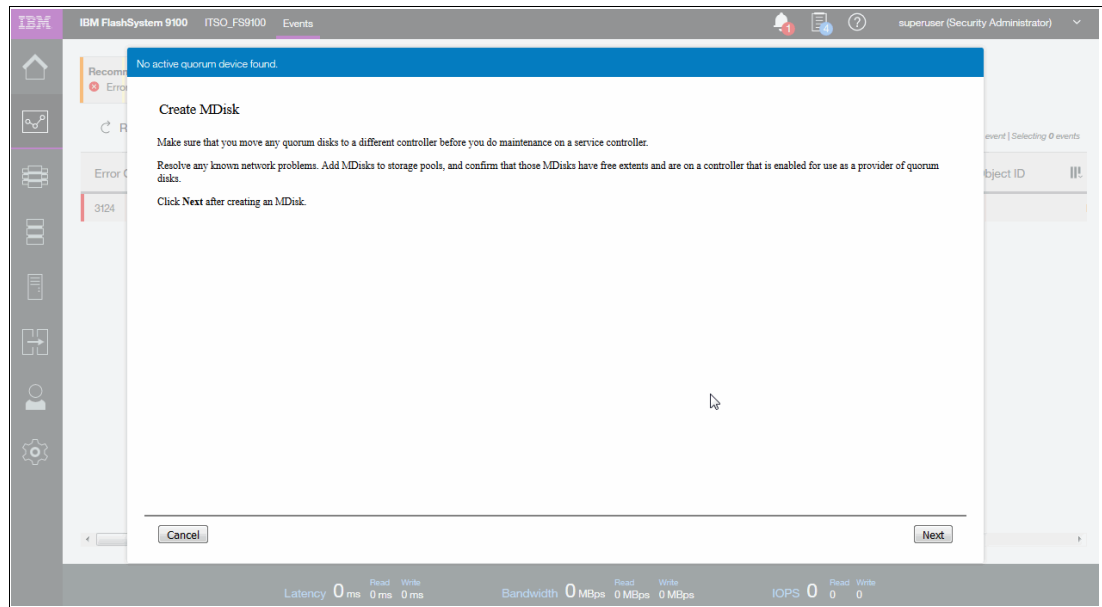

Figure 5-47 Create MDisk
13. Select **Next** to create the MDisk, as shown in Figure 5-47.